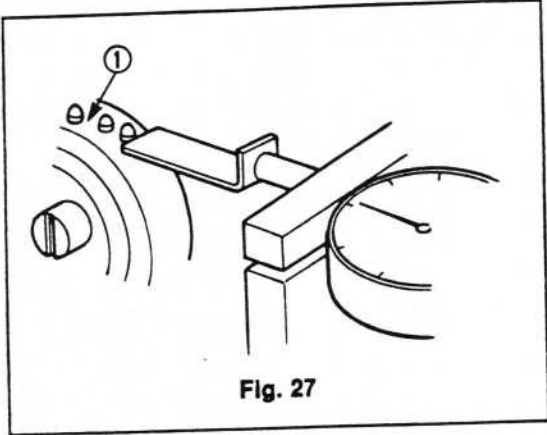

Fig. 27
- (1) Loosen the nut (4) (see Fig. 27) and move the set screw (3). When pressed, the gauge reading should be large. When screwed, the gauge reading should be small.
- (2) When the dial gauge reading is between 0.02 mm and 0.05 mm, rotate the block another 5 - 6 turns and, if the gauge reading is still within 0.02 mm - 0.05 mm, tighten the nut (4) and the set screw (3).